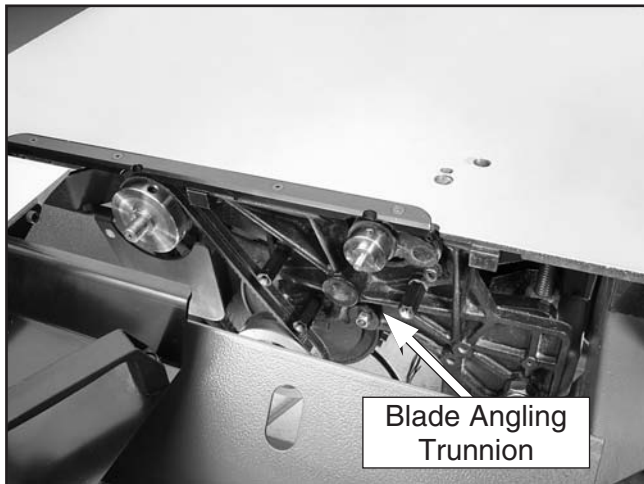

Figure 77. Blade angling trunnions.
1. **Blade angling pivots.** These should be lubricated with 6 or 7 drops of light machine oil (see **Figure 77**).